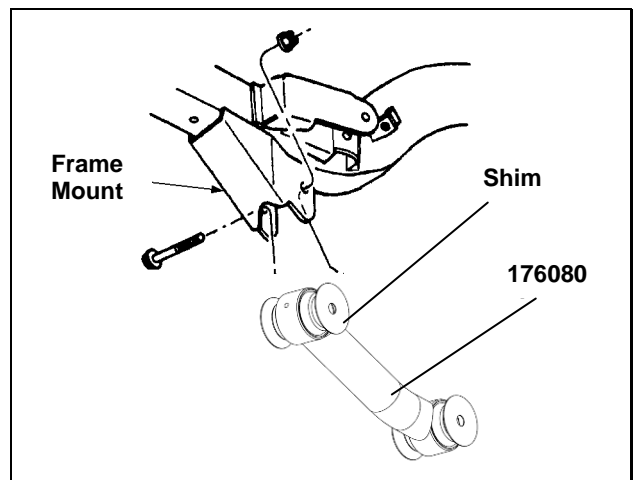

Figure 13
- 1) Place track bar bracket 130019 on top of the axle bracket as shown in figure 13. To properly align the bracket, insert a 12mm bolt from kit 860072 through both brackets.
- 3) Install new Rancho suspension link 176080, along with four shims from kit 860218, to the frame and axle brackets. See figure 13. Use original hardware but do not tighten.